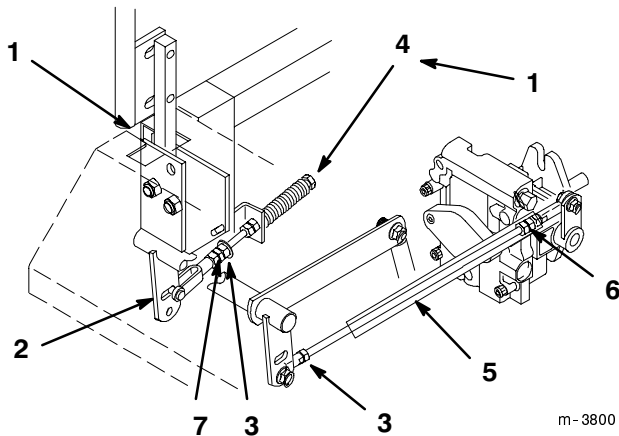

Figure 40
2. Begin with either the left or right motion control lever. Move lever to the neutral (but not locked) position and pull lever back until the clevis pin (on arm below pivot shaft) contacts the end of the slot (just beginning to put pressure on spring) (Fig. 40).
3. Check where lever is relative to notch in console (should be centered allowing lever to pivot outward to the neutral lock position) (Fig. 40).
4. Loosen locknut at ball joint on pump control rod (Fig. 40).
6. Adjust pump rod length by rotating double nuts on rod, in the appropriate direction, until wheel is still or slightly creeps in reverse (Fig. 40).